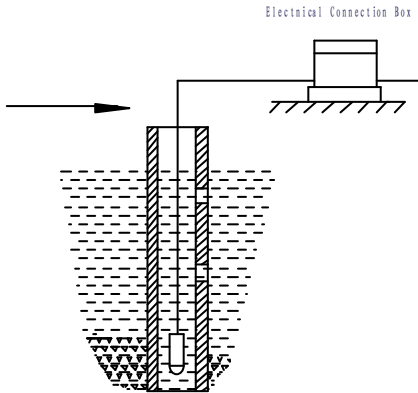

Fig. 4
- a) Inserting steel pipe in the water channel , The steel pipe should be thicker, and several little holes should be made at different heights of the pipe to damp wave and reduce water moving effect. (to see Figure 4)